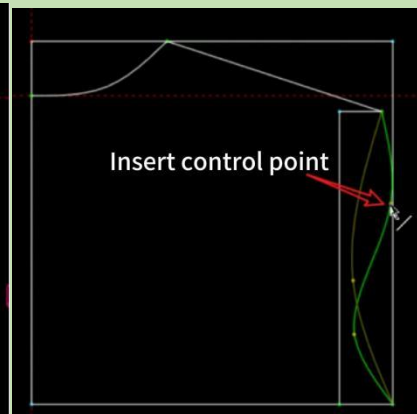

Figure 4-52
2. Drag the point with the left button to adjust the shape of the curve. ( Figure4-52 )